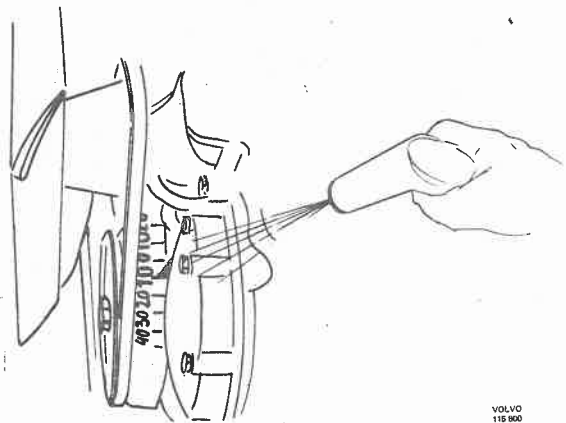

Fig. 34-19. Flywheel damper and graduations
- Start the engine and run it at approx. 13.3 rev/sec (800 rev/min). Point the stroboscope to the graduation on the flywheel damper. See Fig. 34-19. Slacken the distributor retaining screw and turn it until the firing position is 10°. Screw tight the distributor and check that the firing position and speed have not altered.